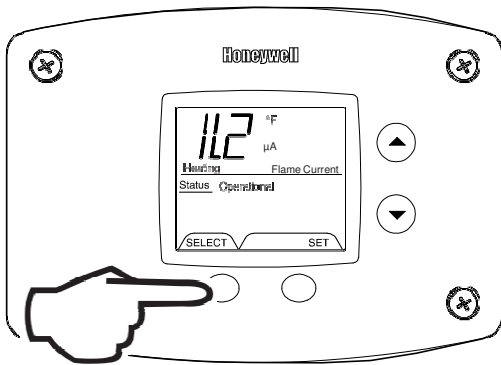

Fig. 33
3. Flame Current of Pilot Flame Sensor (Displays only in the Heating Cycle) (Fig. 33).